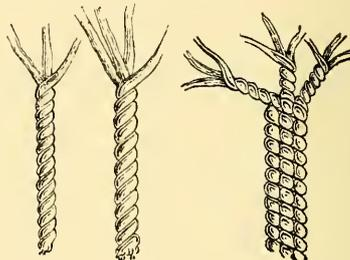

FIG. 317. FIG. 318. FIG. 319.
*Rope*.—Ropes are of three kinds; three-strand, four-strand, and cable-laid. A number of yarns twisted together forms a strand. Three-strand rope (see Fig. 317) is laid right-handed, or with the sun (sometimes termed hawser-laid). Four-strand rope (see Fig. 318) is also laid with the sun (sometimes termed strand-laid). Four-strand rope is usually